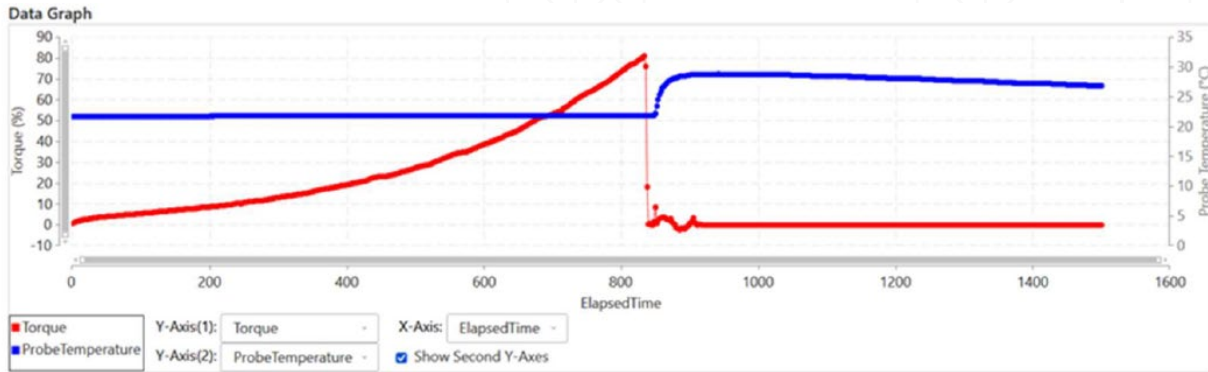

Figure 1: Torque, %, and Probe Temperature, °C, versus Elapsed Time, s, for curing adhesive.
- The exothermic temperature rise spans 7.2°C, from 21.7°C to 28.9°C (Figure 1).